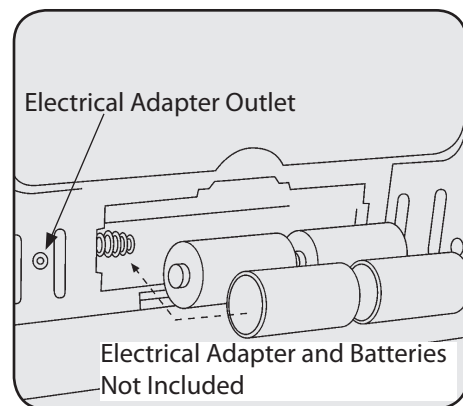

Figure 6
9. Installation of 4 D-cell batteries is required for fan operation. Battery box is located on lower back panel of heater. Follow instructions on battery cover for correct battery installation. See Figure 6.
10. Heater fan can also be powered by electrical adapter F276127. Required adapter to be 6 volt DC up to 800 milliamp current with positive tip polarity. See Figure 6.
12. Installation of 4 D-cell batteries is required for fan operation. Battery box is located on lower back panel of heater. Follow instructions on battery cover for correct battery installation. See Figure 6.
13. Heater fan can also be powered by electrical adapter **F276127**. Required adapter to be 6 volt DC up to 800 milliamp current with positive tip polarity. See Figure 6.